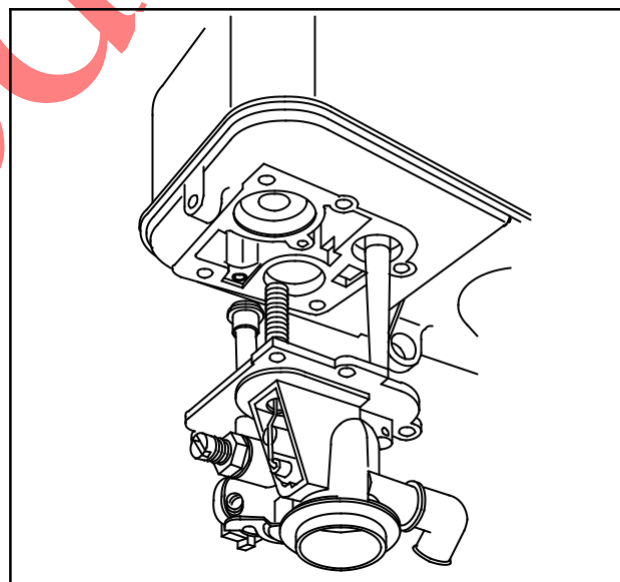

Fig. 44
3. Lower tank down onto carburetor, while guiding choke spring into spring well, Pulsa-Jet shown, Fig. 44.